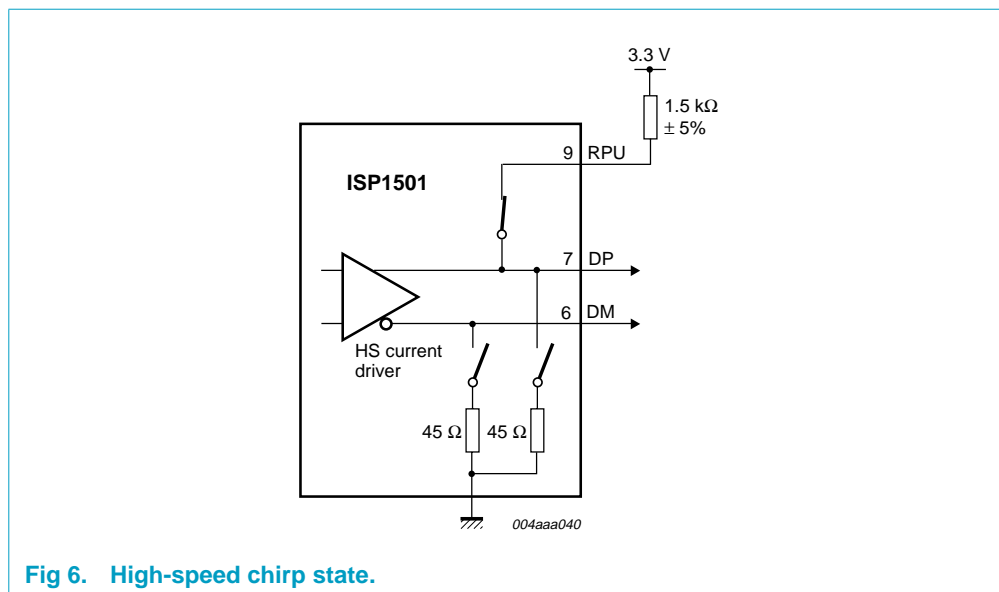

Fig 6. High-speed chirp state.
8.2.4 High-speed (HS) chirp state
In the high-speed (HS) chirp state, $45 \text{ }\Omega$ terminations are disabled from the DP and DM lines. The pull-up resistor is connected on the DP line. The HS transceiver is enabled, and the parallel interface and HS handshake signals are in use (see Figure 6).